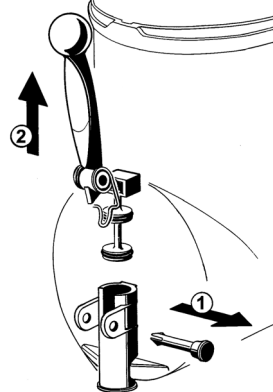

figure 13
- 5 - Remove the faucet assembly sliding the pin and pulling up the handle. (see figure 13).
3 - Assemble the faucet by reversing the disassembly steps (see figure 13)